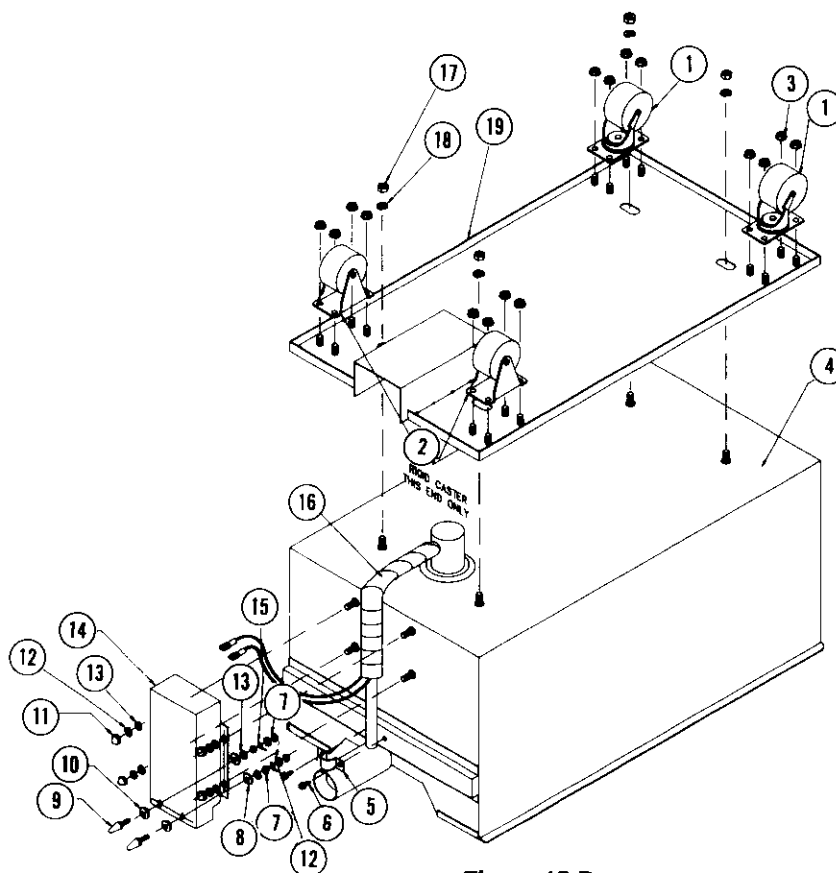

Figure 15-B
16. PARTS LIST (CONT'D)-FILTER MAGIC II (Refer to Figure 15-B)